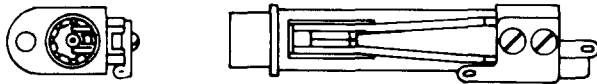

Fig. 6—633-Type Jack
2.06 633-Type: The 633-type jacks (Fig. 6) are terminating coaxial jacks used with the 440- or similar-type plugs. When a plug is inserted, the connection to ground is broken and a through connection is established. The jacks are designed for a solderless shield termination to the KS-19224, L2, cable. The test voltage is 1000 volts ac. These jacks are used with the T4M and M34 digital cable carrier lines. The 633-type jacks have a KS-15712, L38, shield connector that is shipped loose.